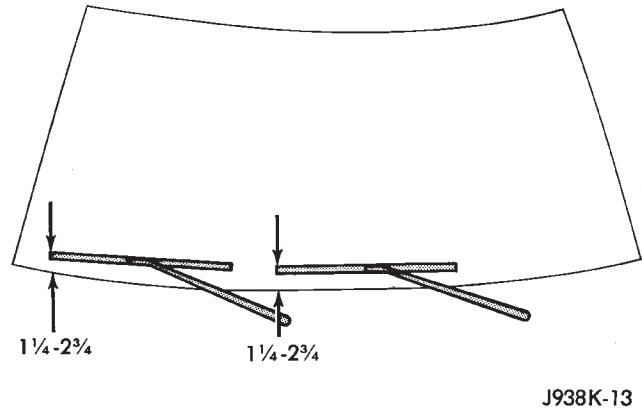

Fig. 9 Front Wiper Arm Positioning
(1) Install motor and tighten screws to 5-7 N•m (44-62 in. lbs.).
(2) Install crank arm to motor and tighten nut to 10-12 N•m (88-106 in. lbs.)
(3) Install linkage assembly and tighten screws to 8 N•m (72 in. lbs.).
(4) Connect washer hose to cowl grille and install grille.
(5) Install wiper arms on pivot as shown in Figure 9 and release tabs.